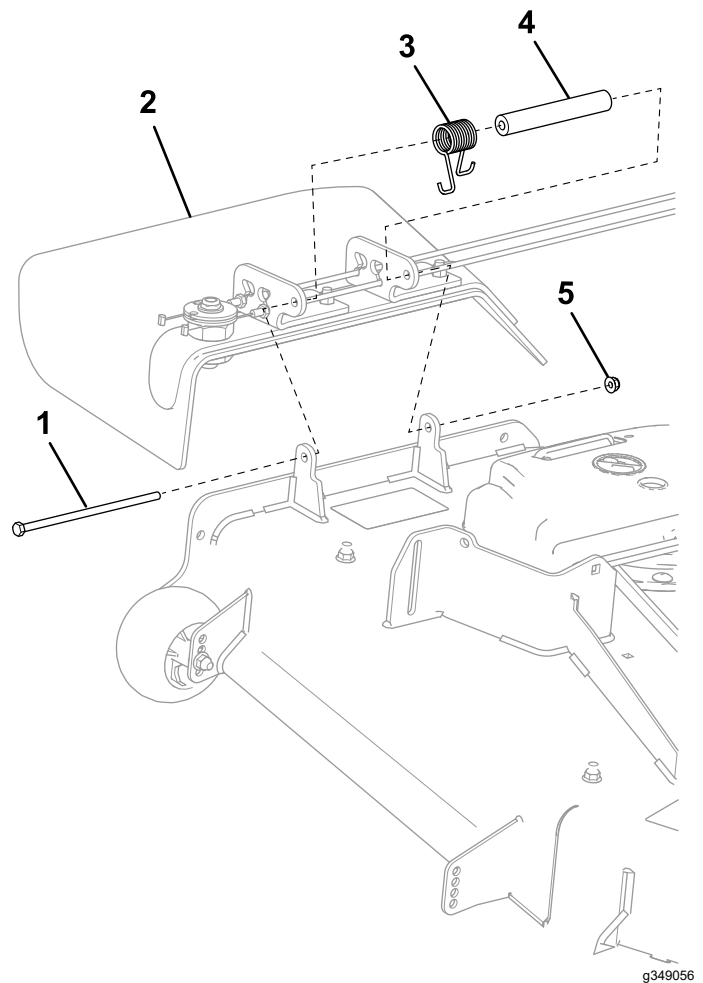

Figure 7
1. Place the new spacer and spring onto the discharge chute (Figure 7).
2. Install hex-head bolt (5/16 x 7-1/2 inches) and locknut (5/16 inch) as shown in Figure 7.